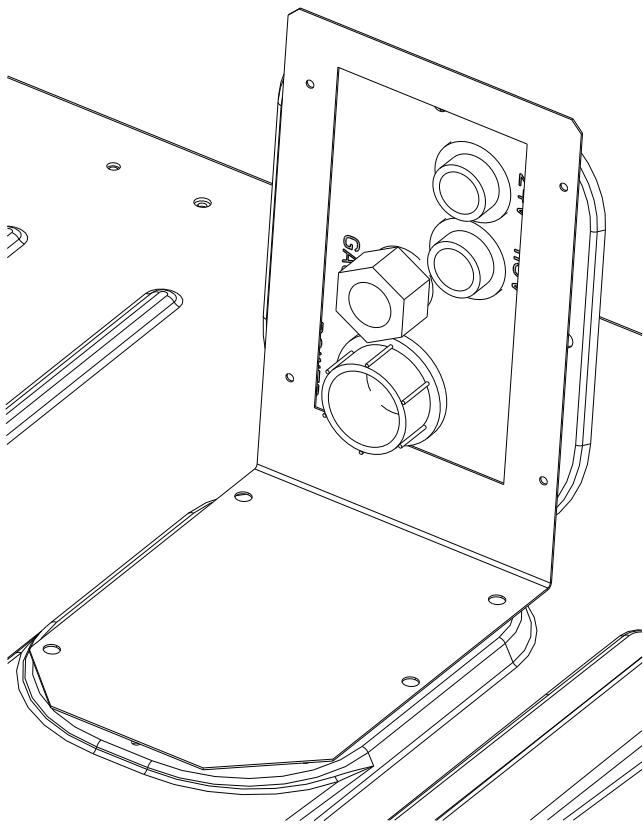
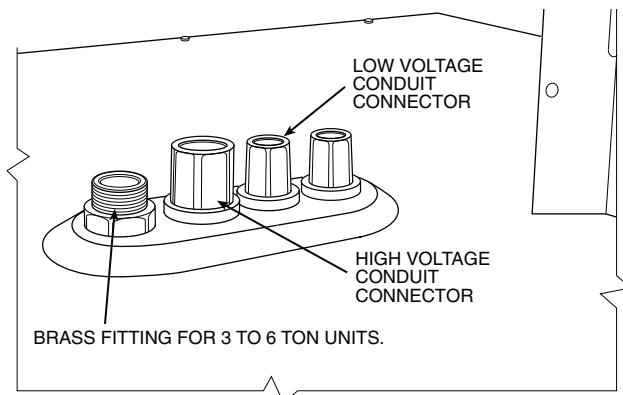

Fig. 21 — Thru-the-Base Fitting Assembly (Shown in Shipping Position)
Fig. 22 — Thru-Base Connection Fittings (Units Built Prior to 4/15/2019)
This service connection kit consists of a 1/2-in. electrical bulkhead connector and a 3/4-in. electrical bulkhead connector, connected to an "L" bracket covering the embossed (raised) section of the unit basepan in the condenser section (see Fig. 21 for shipping position). The 3/4-in. bulkhead connector enables the low-voltage control wires to pass through the basepan. The 1/2-in. bulkhead connector allows the high-voltage power wires to pass through the basepan. See Fig. 22 and 23.
3. Place the gasket over the embossed area in the basepan, aligning the holes in the gasket to the holes in the basepan. See Fig. 21.